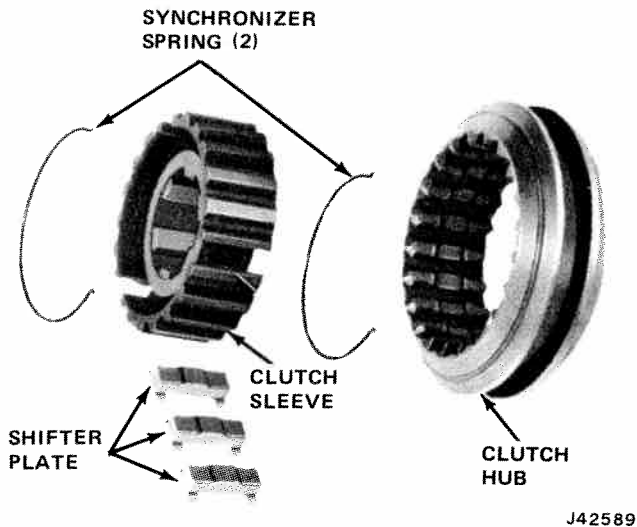

Fig. 6-12 Second-Third Synchronizer Assembly
- (1) Remove springs (one on each side of unit).
- (2) Mark sleeve and hub before separating to ensure proper installation at assembly.
- (3) Remove hub from sleeve.
- (4) Remove three synchronizer plates from third-speed side of hub.
- (5) Clean and inspect synchronizer assembly parts.
- (6) Assemble synchronizer in reverse order of disassembly, **making certain the two synchronizer spring openings are installed 120 degrees opposite each other, with spring tension opposed** (fig. 6-12).